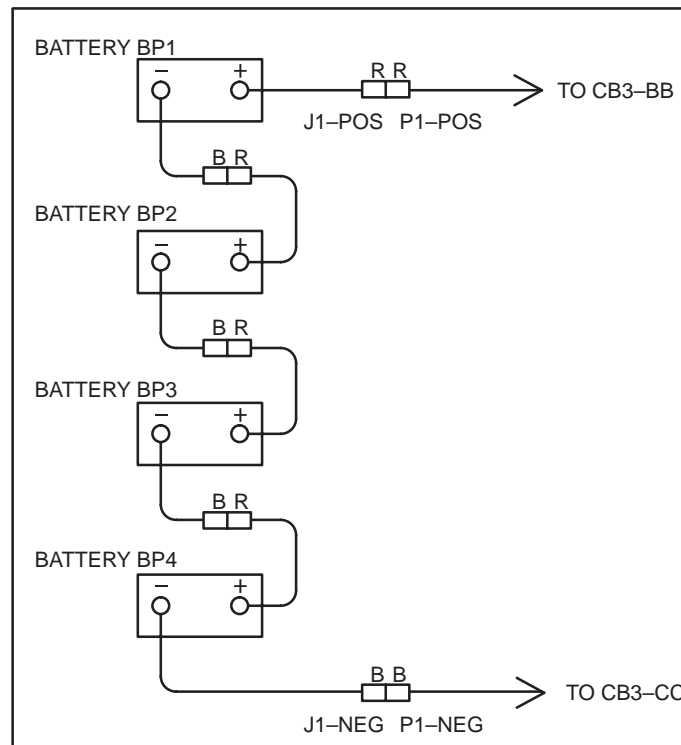

Figure 4-1.
4. Mount new battery in tray, clean the posts and cable lugs and connect cables, observing polarity (see Figure 4.1).